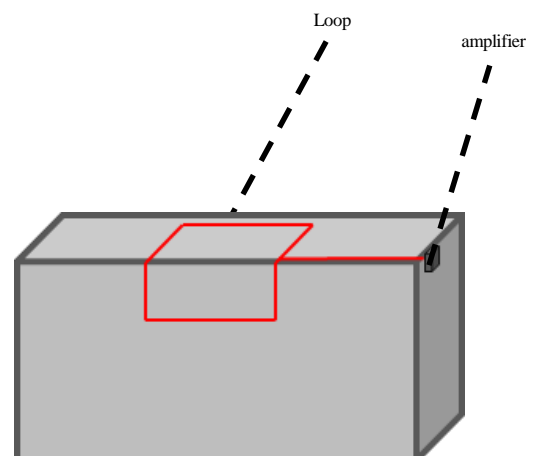

Figure1.
1. There are 2 possibilities to place a loop in a counter as described below, however we strongly advise you to use the first version: Place the loop on the vertical and horizontal portion of the counter as shown in figure 1. This type of installation ensures better coverage in front of the counter.